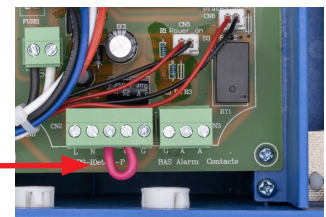

Figure 3
3. Remove the red jumper wire between C and NO on the "GPS-iDetect-P" terminal block inside the GPS-iMOD power supply (see FIGURE 3 for jumper wire).